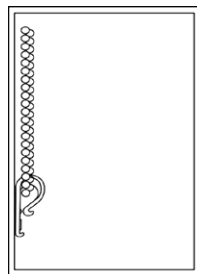

Figure 1
1. Insert the idle mechanism into the idle bracket (part C) so it is engaged (Figure 1).
1. Position the tension device at the bottom of the chain loop (Figure 1).